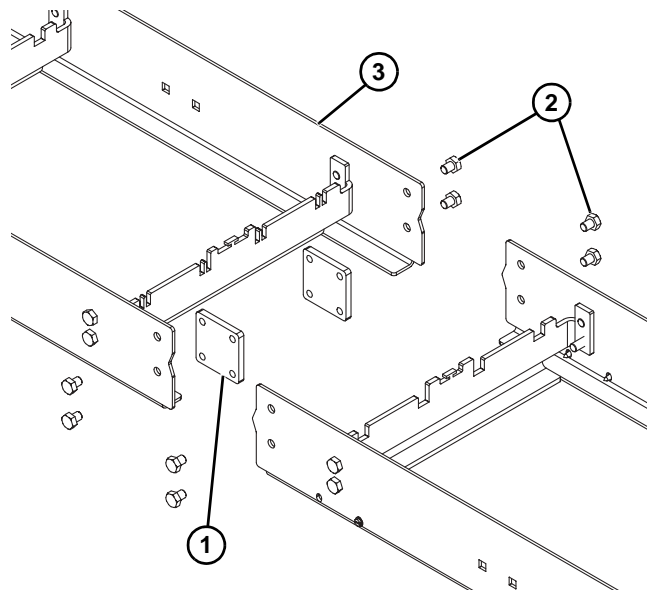

Figure 4
Typical connecting components (Figure 4).
2. Join both conveyor sections and install connecting plates (Figure 4, item 1) with four M8x10 hex head cap screws (Figure 4, item 2) on both sides.